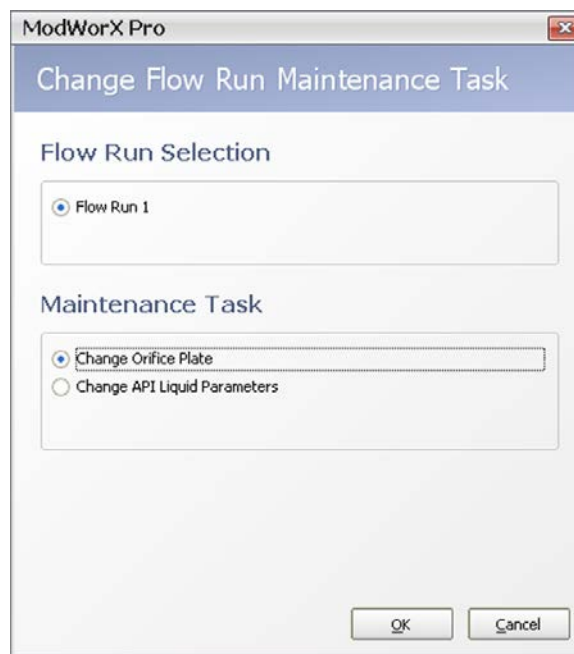

Figure C.2
If the flow run is configured for liquid measurement, the selections will appear as shown in Figure C.2. Enter the appropriate fluid properties calculation method (generic or API-2540). If API-2540 is selected, specify the type of fluid from the dropdown list provided.
1. If Change API Liquid Parameters is not displayed in the Maintenance Task field at the top of the Maintain Flow Run screen, click on **Change Task**. The Change Flow Run Maintenance Task dialog box will appear (Figure C.2).